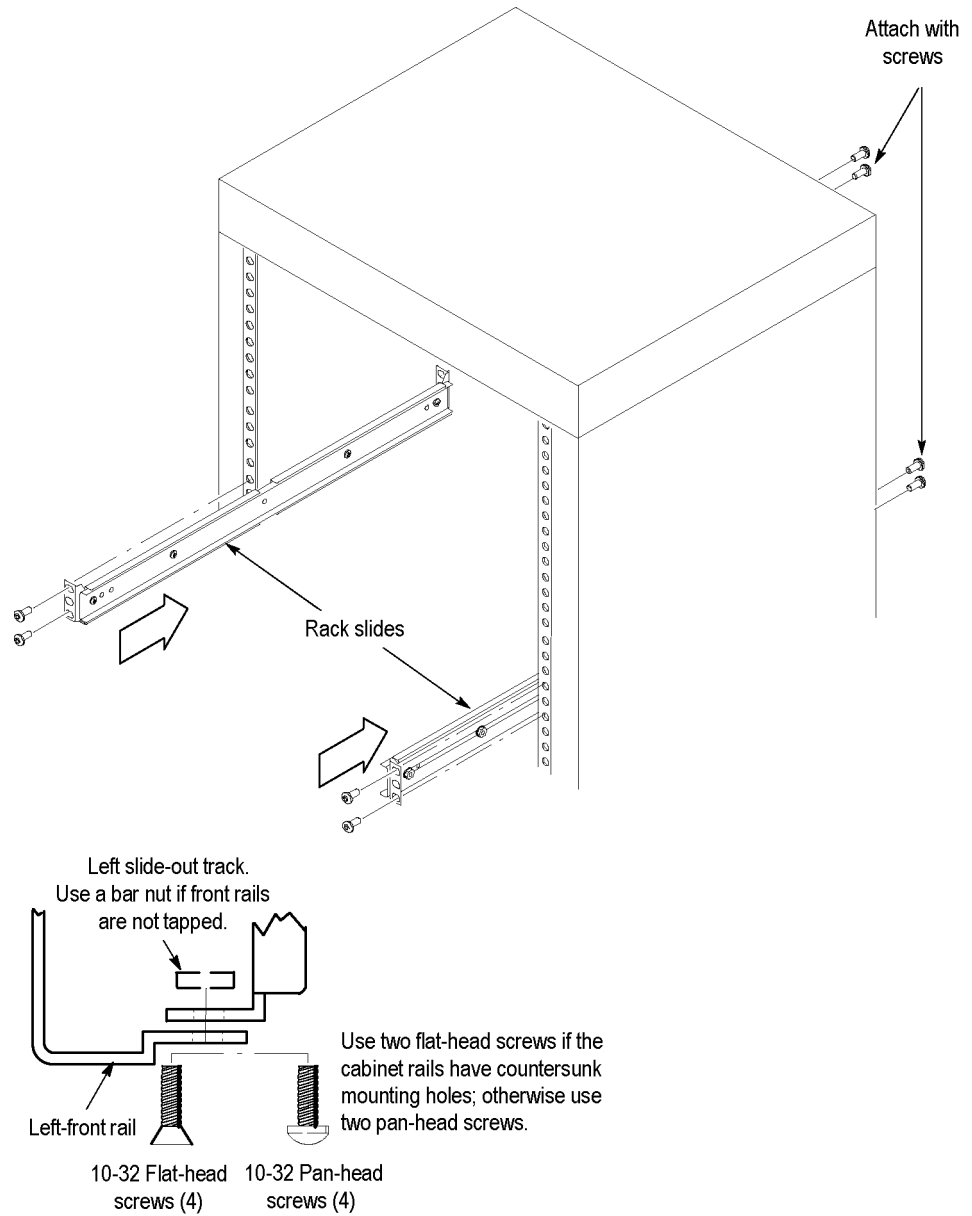

Figure 7: Installing the rail slides
5. Attach the rack slides to your equipment rack. (See Figure 7.)